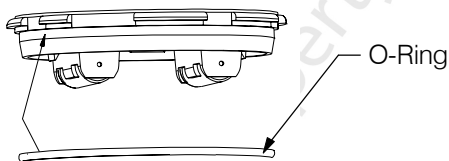

Figure 5
4. As noted in Figure 5, reinstall o-ring on electronics module. Align sensor receptacle in proper location. Press module gently down into meter cover.